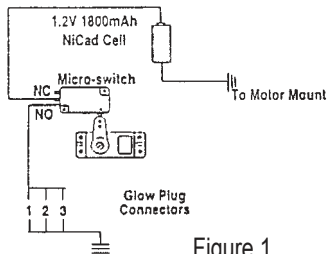

Figure 1
c. Attach the single lead from the ground wire to the negative terminal on the Ni-Cad battery. Please refer to Figure 1.